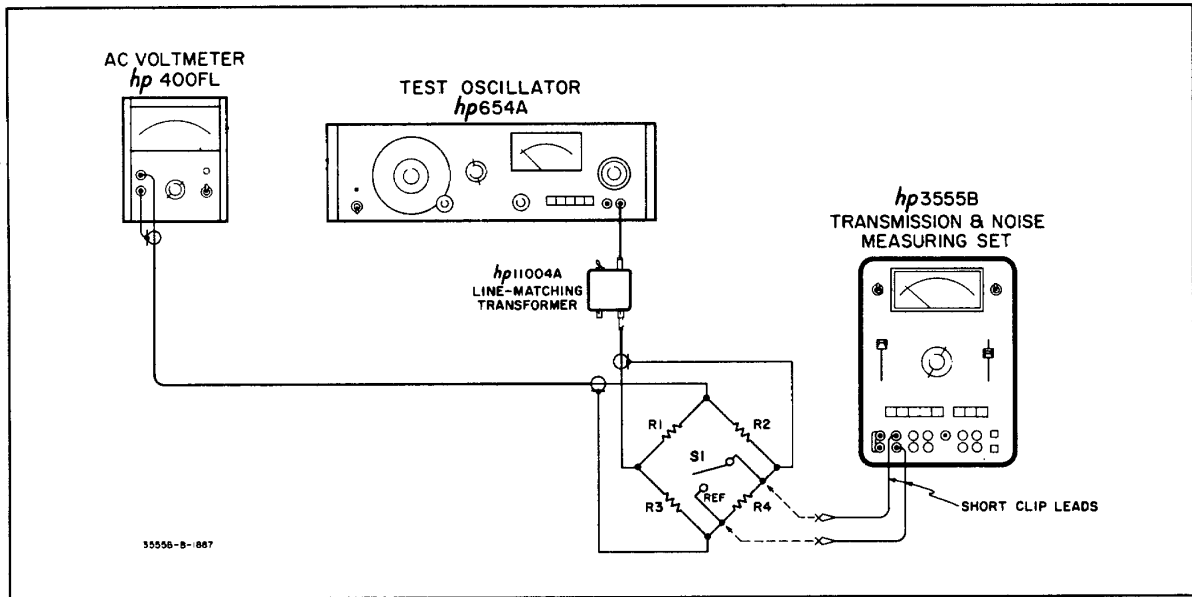

Figure 5-4. Return Loss Test Set-Up
- a. To make a return loss check it will first be necessary to construct a balanced bridge utilizing 0.1% resistors for each of the four 3555B impedances. Figure 5-4 shows the equipment test set-up to be used. For this check to be meaningful, all test leads should be kept short. The leads connecting the 3555B to the bridge should be short clip leads and should be kept away from each other and from other leads. Keep all the instruments away from other instruments that may be referenced to earth ground.
- b. Connect the equipment as shown in Figure 5-4 and set the 3555B controls as follows:
- c. Set the 654A frequency to 1kHz. Temporarily close S1 in Figure 5-4 and adjust the 654A output level for an up scale indication on the 400FL AC Voltmeter.
- e. Unplug or disconnect R4 in Figure 5-4 and connect the 3555B tip and ring in its place. Be sure to use short clip leads.
- f. Momentarily close S1 and recheck the reference on the 400FL. Open S1 in Figure 5-4 and down range the 400FL for an on-scale indication. This indication must be down at least 30dB from the reference.
- i. Change the bridge resistors in Figure 5-4 to 900 ohms f 0.1% (use 300 ohms + 0.1% in series with 600 ohms  $\pm 0.1\%$ ) and change the 3555B FUNCTION to VF/Nm 900 BAL. Be sure to reset the reference level after the resistors are changed. Check the return loss between 50 Hz and 20 kHz. The return loss must be better than 30 dB.
- j. Change the bridge resistors in Figure 5-4 to 135 ohms +0.1% and change the 3555B FUNCTION to 135 BAL. Check the return loss between 1kHz and 600kHz. The return loss must be better than 26dB down from the reference.
- k. Change the 3555B input connection to the 75 UNBAL jack. Change the resistors in Figure 5-4 to 75 ohms +0.1% and change the 3555B FUNCTION to CARRIER 75 UNBAL.